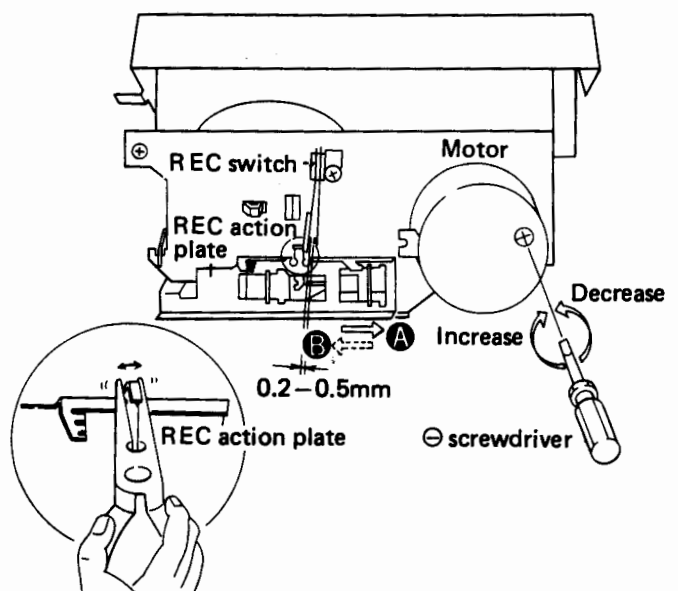

Fig. 11-2 Tape speed and REC switch adjustment
2. Play back the 3kHz portion of the STD-301 test tape. At the beginning, the frequency should be lie within the 3000Hz ~ 3010Hz range, and may be adjusted by turning the semi-fixed resistor located in the motor adjustment hole as shown in Fig. 11-2.